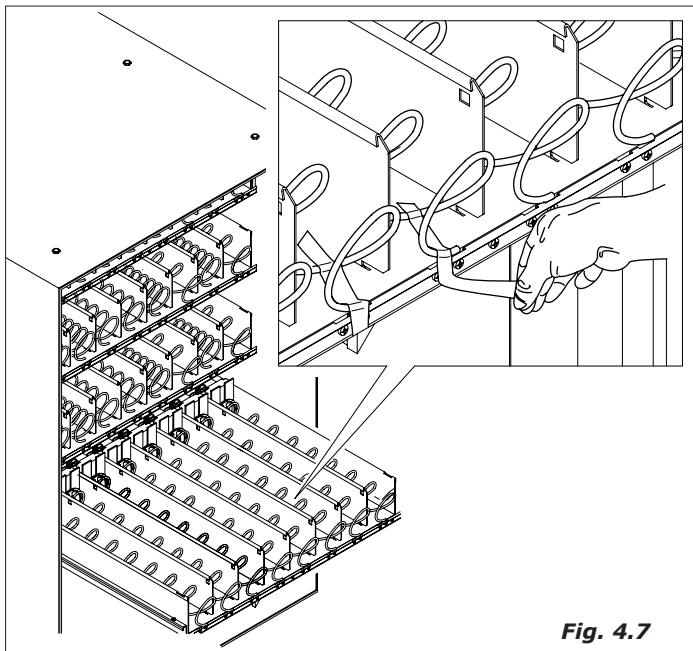

Fig. 4.7
- spirals (example in Fig.4.7)